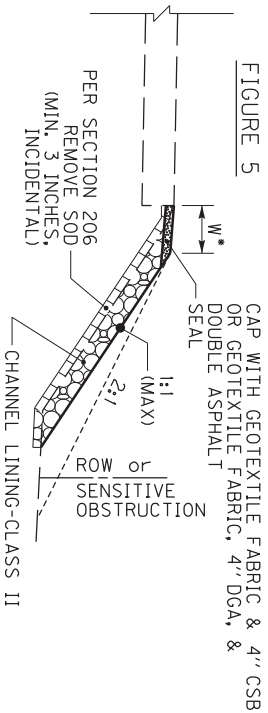

FIGURE 5
7. AS SHOWN IN FIGURE 5, IF THE EXISTING FILL SLOPE IS STEEPER THAN 2:1 AND THERE IS NOT ENOUGH SPACE TO INSTALL A 2:1 FILL SLOPE WITHOUT EXTENDING BEYOND THE RIGHT-OF-WAY AND/OR IMPACTING A SENSITIVE OBSTRUCTION, THEN CLASS II CHANNEL LINING MAY BE INSTALLED ALONG THE STEEP EXISTING SLOPE IN ORDER TO ESTABLISH A WIDTH OF AGGREGATE SHOULDER. THESE LOCATIONS WILL BE NOTED ELSEWHERE IN THE PROPOSAL AS SLOPE PROTECTION. THE CHANNEL LINING IS TO BE CARPED WITH GEOTEXTILE FABRIC TYPE IV AND 4" OF CRUSHED STONE BASE, OR 4" OF DGA WITH DOUBLE ASPHALT SEAL COAT.